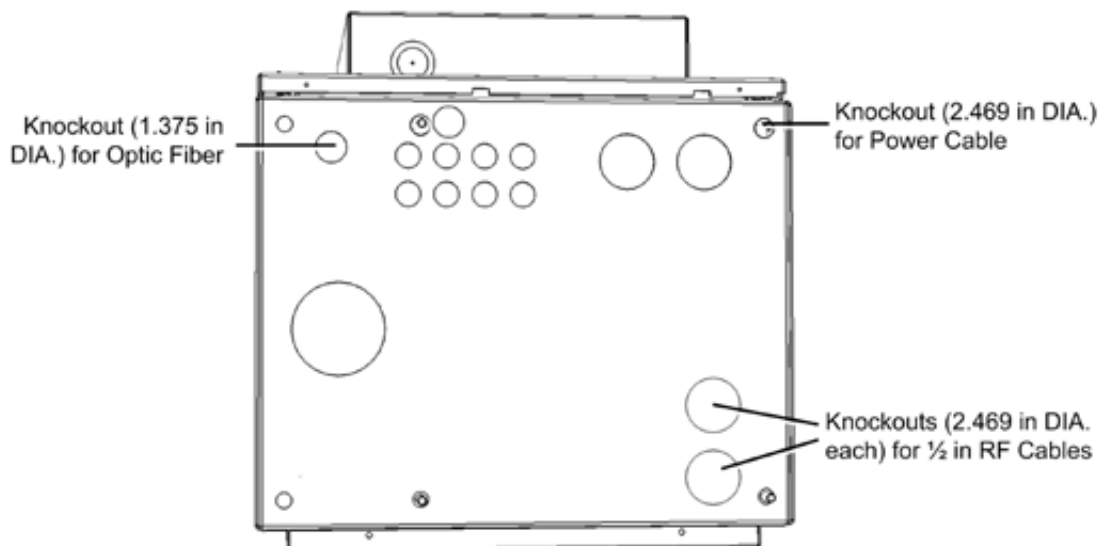
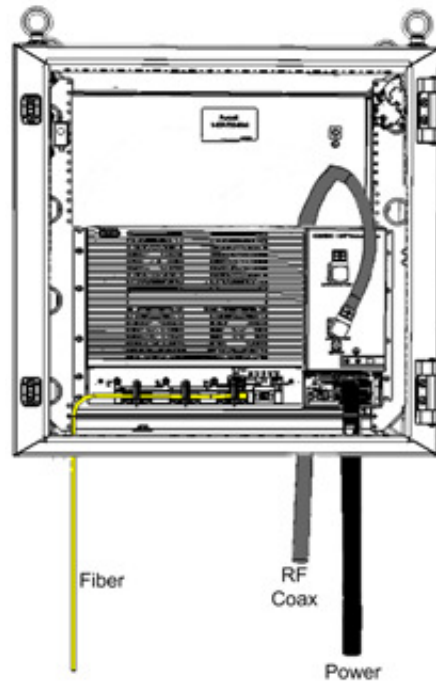

Figure 6-13. Required Knockouts Positions
Figure 6-18. Example of Routed Connection Cables
- Recommended - flexible cable conduits for routing connections cables through cabinet knockouts; refer to Figure 6-13 for relevant knockouts; Following are recommended Heyco part numbers for flexible conduits:
- Referring to Figure 6-13 for relevant knockouts, use appropriate knockout tools to punch out knockouts for routing connection cables.
2. Connect RF antenna coax - (for both 4.3-10 Type “ANTENNA PORT” and “2.5GHz INPUT PORT”) route coax cable with 90° right angle connector through its’ designated knockout (see Figure 6-13) behind and above the MRU chassis and connect to the corresponding RF port. Refer to Figure 6-18.
4. Route optical fiber from ICU and power cable through designated knockouts (see Figure 6-13) and connect according to instructions in Section 4.4. Refer to Figure 6-18.